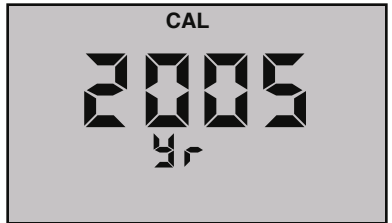

Figure 13
3. Press $\frac{\text{CAL}}{\text{MCLR}}$ to initiate. **CAL** will be displayed along with the YEAR, (see Figure 13).